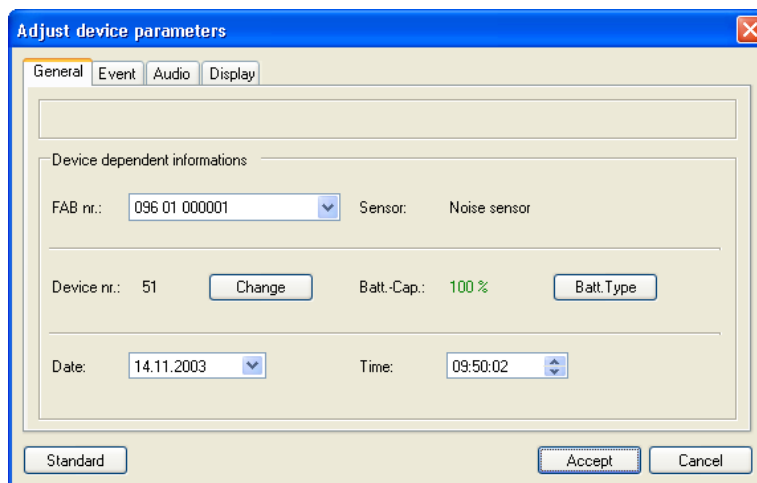

Fig. 55: Adjust device parameters
- In the **Adjust device parameters** window (fig. 55), click on the **General** tab.
- In the **Adjust device parameters** window (fig. 55), click on the **Event** tab.
- In the **Adjust device parameters** window (fig. 55), click on the **Audio** tab.
- In the **Adjust device parameters** window (fig. 55), click on the **Display** tab.